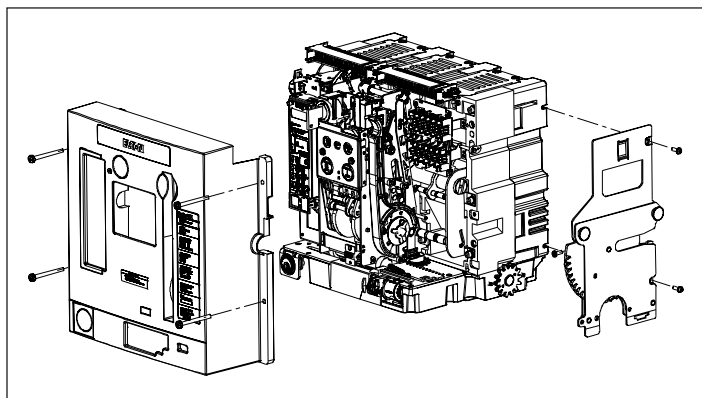
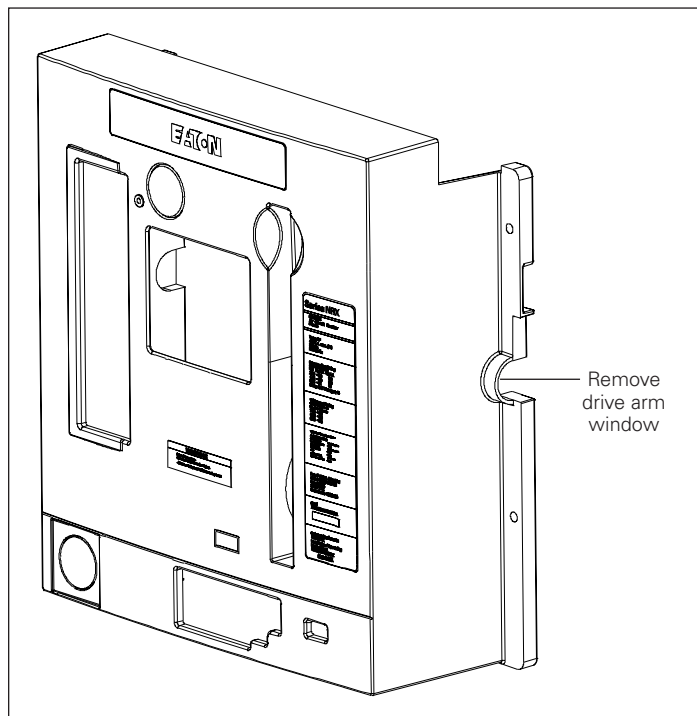
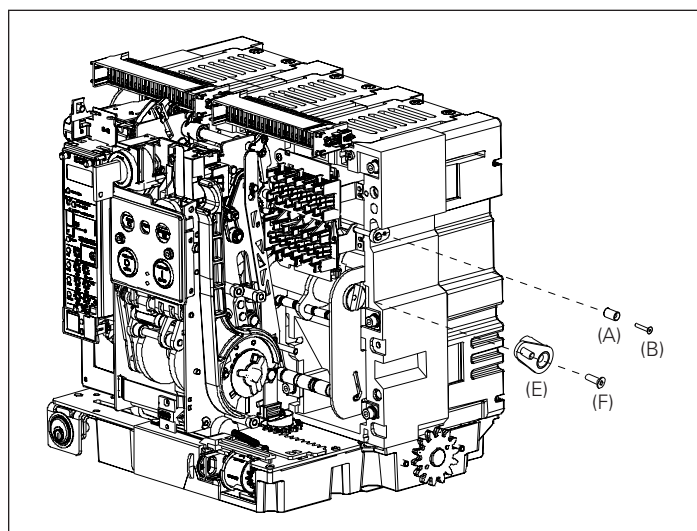
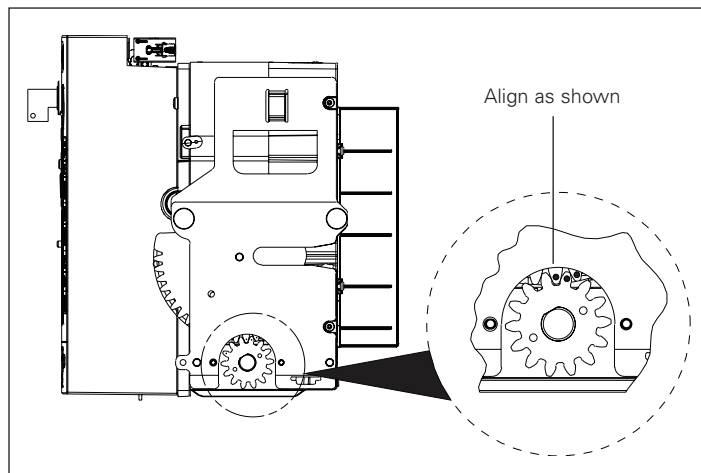

Figure 4. Details for Steps 1 and 2
Figure 5. Details for Step 1
Figure 6. Details for Steps 3 and 4
Figure 7. Details for Step 4
Remove the four screws (six for 4-pole breaker) holding the cover in place. Pull down on the charging handle and remove the front cover as shown in **Figure 4**. Remove drive arm window as shown in **Figure 5**. Either use a utility knife to cut the window from the cover or use a punch and a small hammer to carefully punch out the window. Once the window is removed, use a small file to remove any burrs that remain. Make certain that all pieces and/or particles are cleaned up and removed before proceeding.
Install the drive arm (E) to the end of the pole shaft using one M6 x 35 mm flathead screw (F) as shown in **Figure 6** and **Figure 7**. Apply Loctite® Blue 242 to ensure that the screw cannot loosen during operation. The drive arm should be oriented as shown in **Figure 4** and **Figure 5**. Torque to 7,3–9,6 N·m (65–85 in-lb).
Install the trip pin (A) to the trip bar using an M3 x 16 mm flathead screw (B) as shown in **Figure 6** while holding the trip bar with an adjustable wrench. Apply Loctite Blue 242 to ensure that the screw cannot loosen during operation. Torque to 0,3–0,6 N·m (3–5 in-lb). Replace levering device side plate as shown in **Figure 7**.